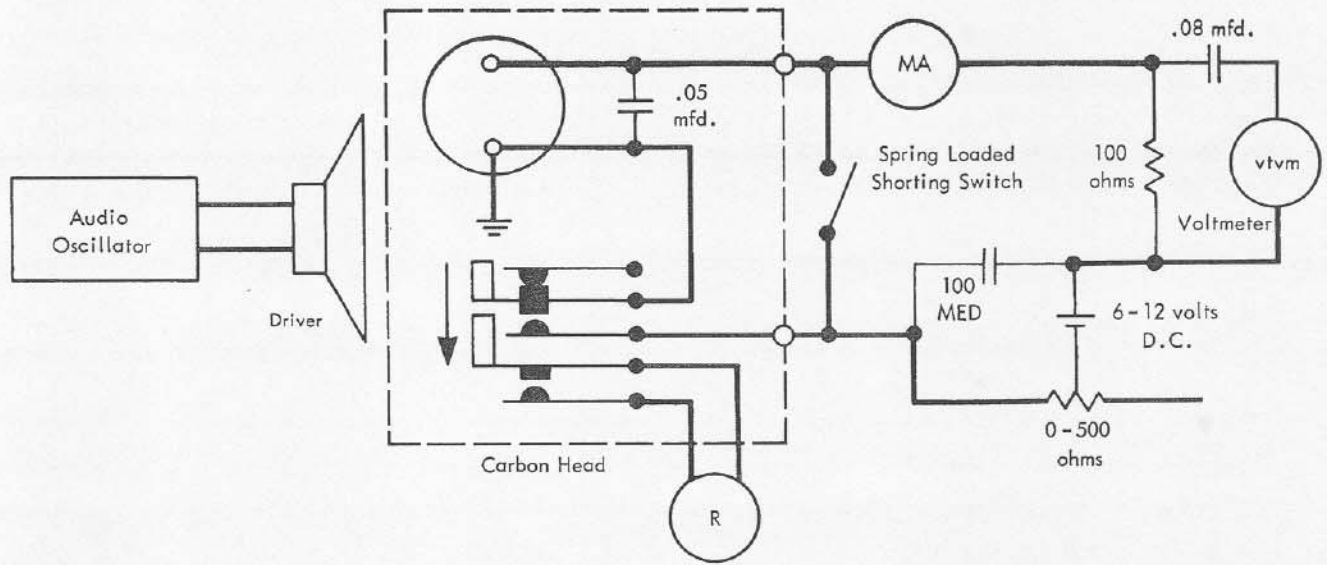

Figure 2 – Test set-up and wiring diagram
8. Test procedure: (See Figure 2)
10. Check of Microphone Output: The best procedure for testing the microphone is to compare its output with one known to be operating properly, using the test set-up shown in Figure 2. Check the output voltage as follows:
11. Check of Frequency Response: This test requires the use of an audio oscillator and driver as shown in Figure 2.
- a. Connect a test microphone as shown in Figure 2 and adjust current as in Step a of the output test.